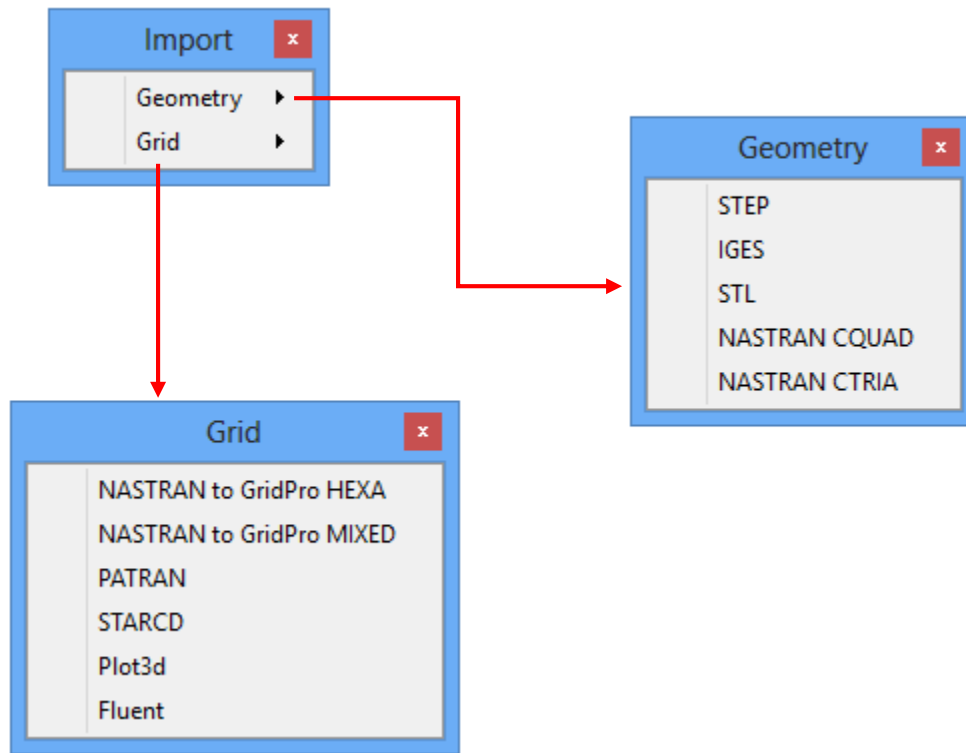

Figure 2.16: Import formats of geometry and grid
**Import** option allows you to import various geometry and grid formats into the *GridPro* UI. Once the appropriate file is selected, it converts the respective file to *GridPro* format and loads into the UI. Figure 2.16 shows various import geometry and grid formats available in the UI.